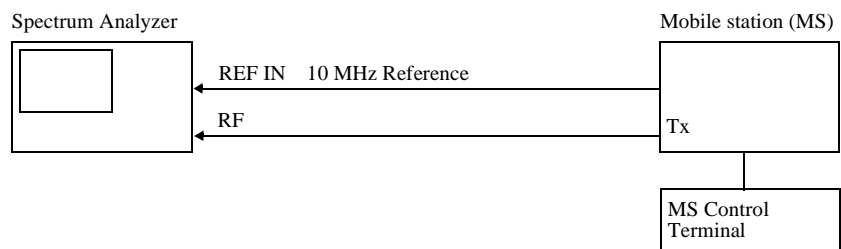

Figure 2-35 Setup for CCDF Measurement
1. Connect the unit under test as shown in Figure 2-35.